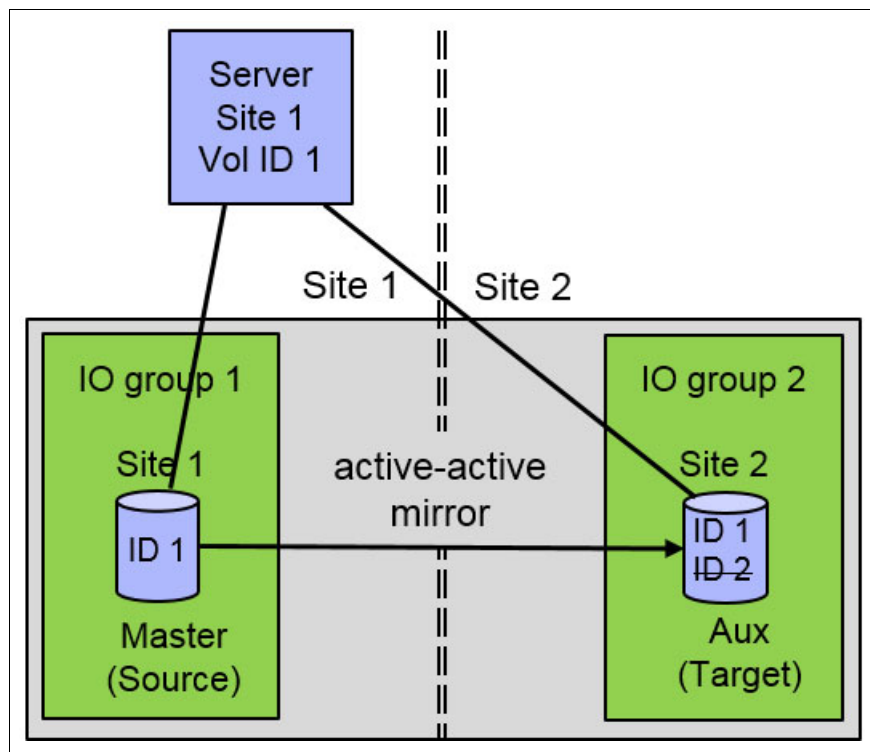

Figure 11-4 HyperSwap LUN ID Simulation
Figure 11-4 shows the host can access the HyperSwap volume using the master and the auxiliary (aux) VDisk. In the CLI and GUI, the aux VDisk is shown offl*ine*, but the host can use it with the LUN ID of the master VDisk.
The example in Figure 11-4 shows a host on site 1 accessing the HyperSwap volume using I/O group 1 and the *master* VDisk on site 1. Data is replicated to the *auxiliary* VDisk on site 2. When the connection from the host to the master VDisk is broken, for example the Fibre Channel (FC) connection between host and I/O group 1 is broken, then the host accesses the data using I/O group 2.